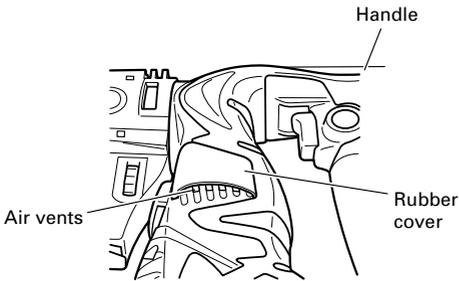

Fig. 16
4. Attaching the rubber cover (Fig. 16)